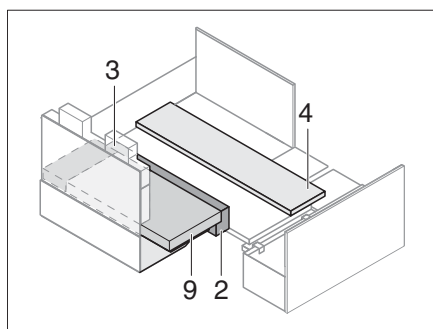

Fig. 199 Positioning additional cushion
- Position the additional cushion (Fig. 199). The distance results from the insertable cushion.
- Insert the seat cushion and seat extensions. Place the back cushions (Fig. 199,9) on the additional cushion.